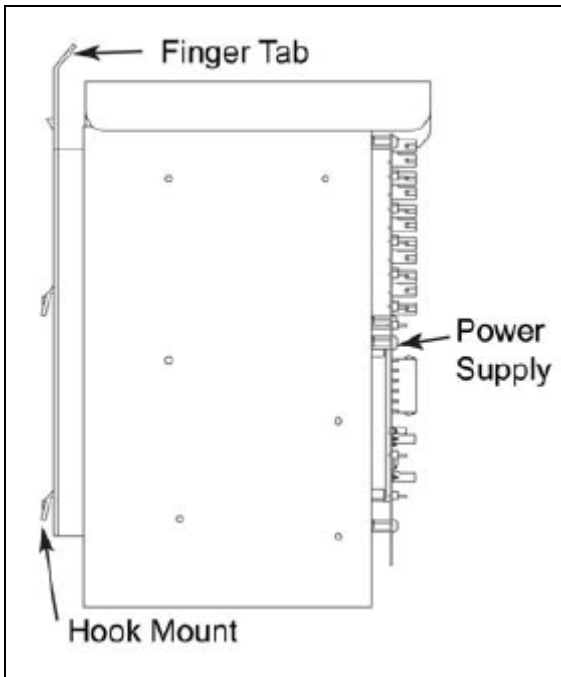

Figure 4: Power Supply Assembly
4. Pull the finger tab and lift the power supply assembly. Refer to **Figure 4**.